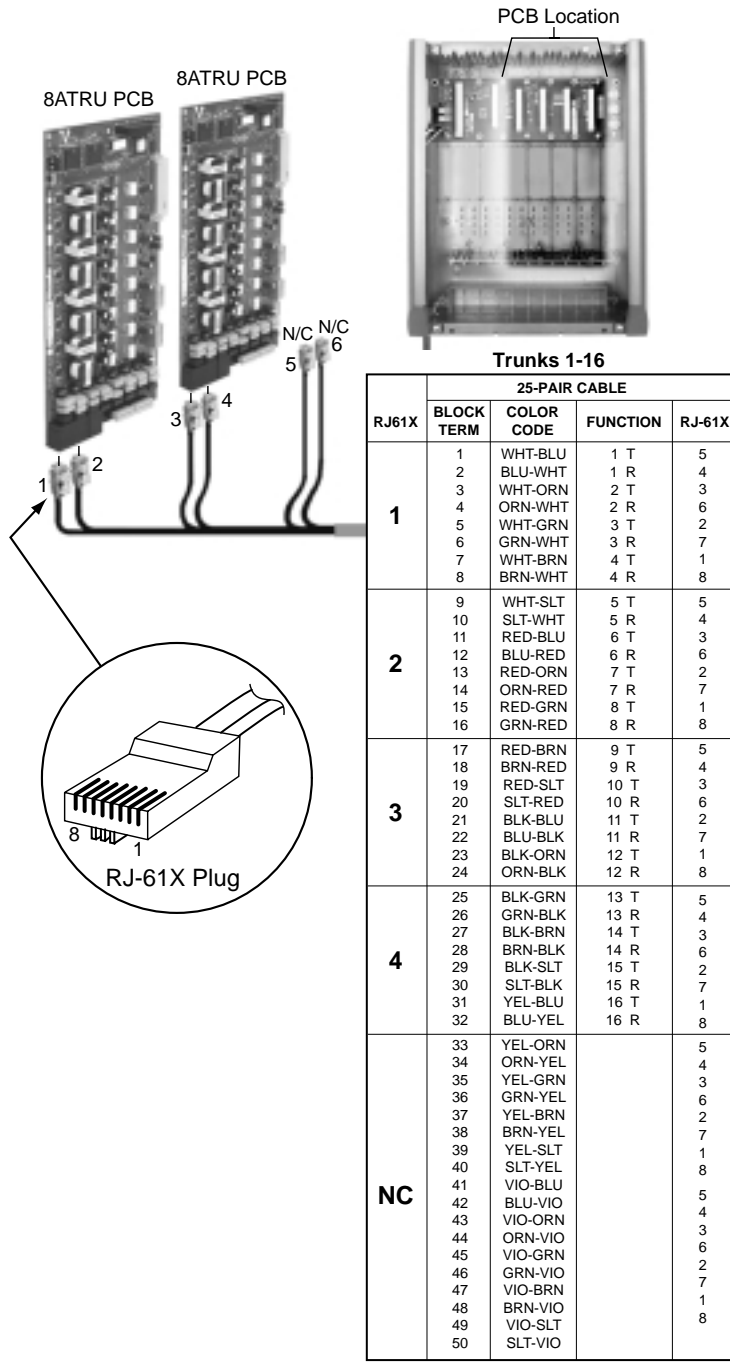

Figure 2-15 CONNECTING TRUNKS
- Use Figure 2-15 when connecting trunks.
1. Using Figure 2-15 as a guide, insert the mod jacks into the appropriate connector on the PCB.